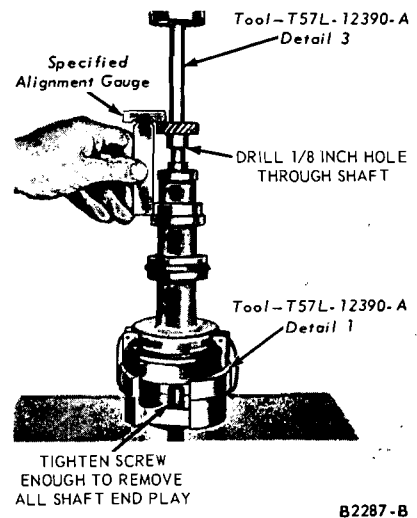

FIG. 14—New Shaft and Gear Installation
4. With the backing screw on the support tool tightened enough to remove all end play, press the gear on the shaft to the specified distance from the bottom face of the gear to the bottom face of the distributor mounting flange (Fig. 14). Drill a 1/8-inch hole through the shaft using the hole in the gear as a pilot.